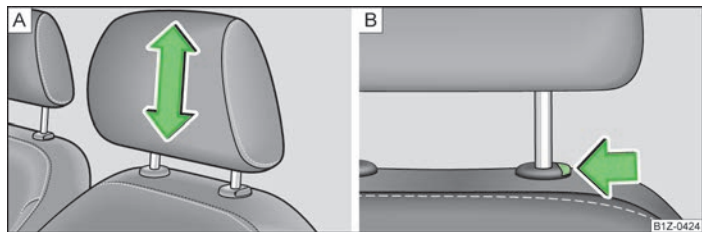

Fig. 44 Head restraint: adjusting/removing
- Grasp the side of the head restraint with both hands and push it upwards as required » Fig. 44 - A.
- To move the head restraint downwards, press and hold the safety button » Fig. 44 - B with one hand and press the head restraint downwards with the other hand.
- Press the locking button in direction of the arrow » Fig. 44 - B and pull the head restraint out.